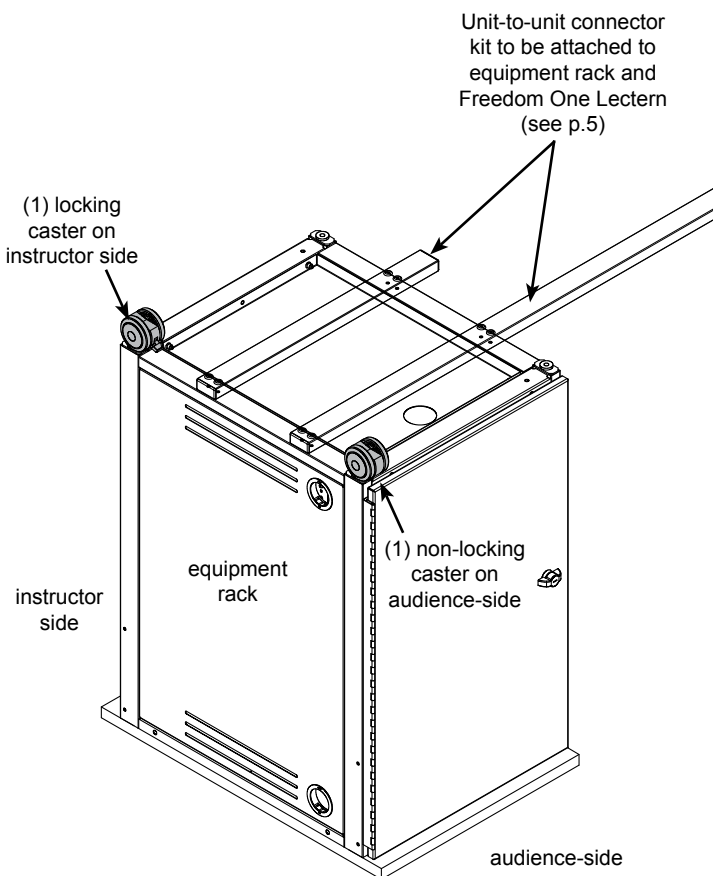

Figure 1C
3. If the equipment rack will connect to the Freedom One lectern, determine which side of the lectern you plan to attach it. The side of the rack you attach to the lectern will not need (2) casters or glides. This side of the rack will be supported by the lectern. **Figure 1C.**
3. Be sure two casters or glides are installed on the side of the equipment rack away from the lectern (outside). See **Figure 1C** on p.3 for caster/glide installation.
4. Attach the short and long connector tubes with (4) 1/4-20 x 40mm JC bolts each.